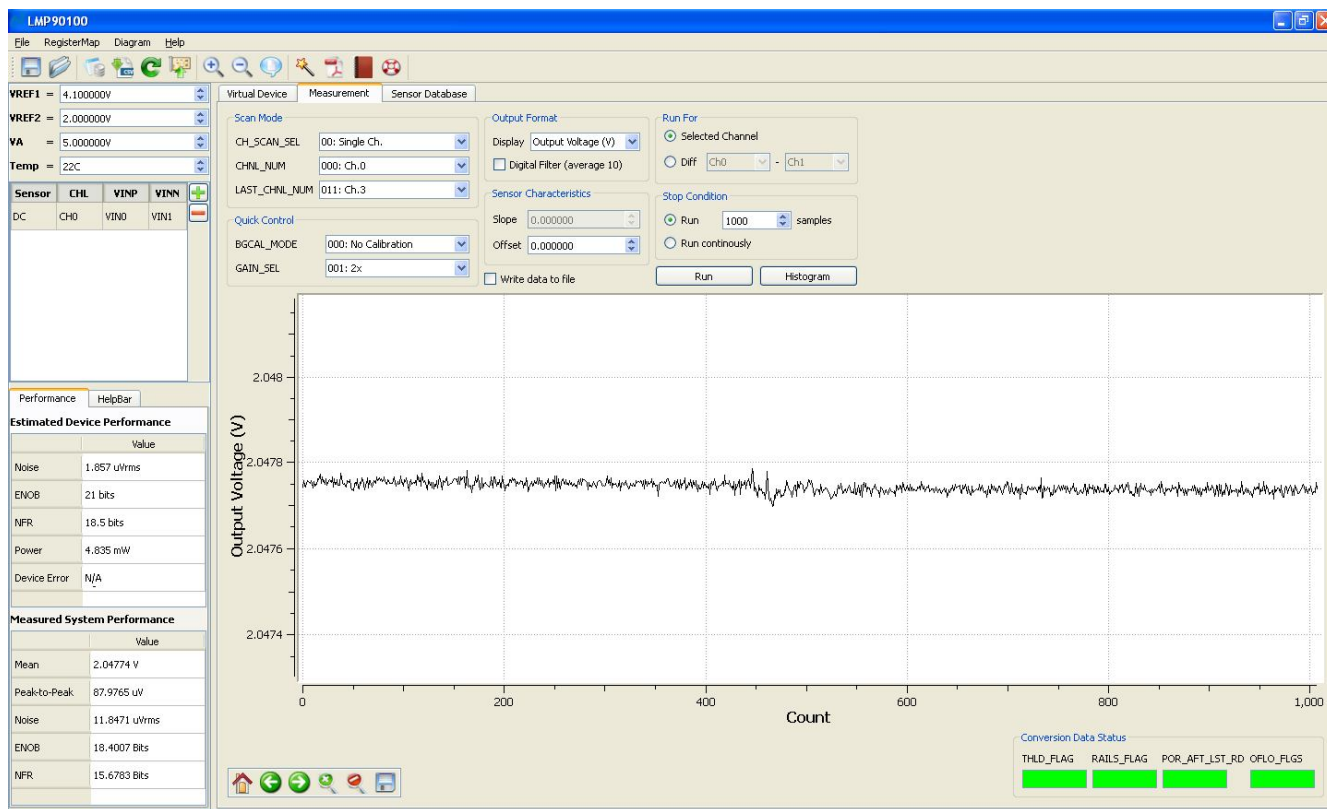

Figure 6 - Results for Example #1 - DC Reading
- a. Under the “**Output Format**” field, select Display “**Output Voltage (V)**”
- c. Click on the “**Run**” button to view the output voltage results. A reading of approximately $\frac{1}{2}(VREF1)$ should be plotted as seen in Figure 6.